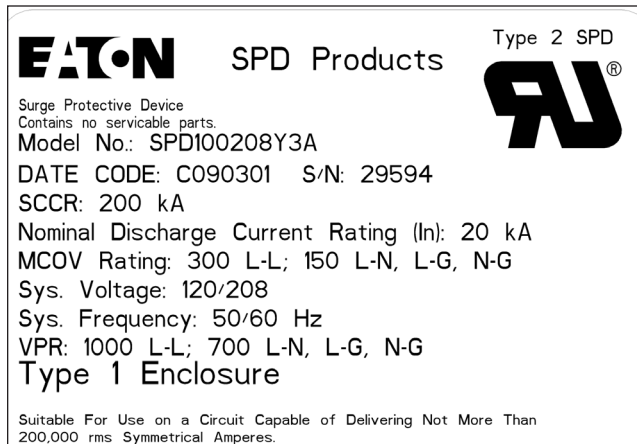

Figure 1. Product label
These numbers also appear as part of the product label attached to the front left side of the SPD. See Figure 1.
- Confirm that the system voltage and wiring configuration is the same as the SPD you are installing. Check the voltage rating label on the front left side of the SPD. See Figure 1.